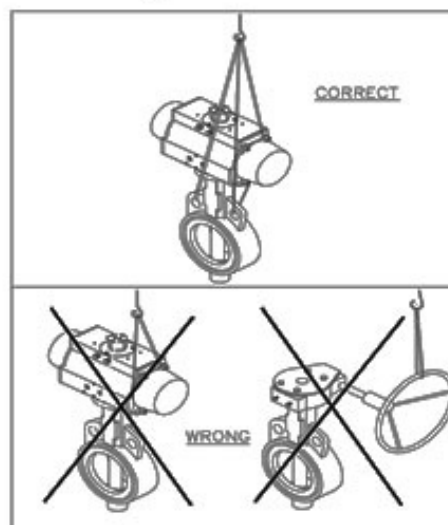

Fig 1.2 Lifting of the Valve
4.5 Lever or hand wheel of gear operator for respective valves are packed loosely and kept in the same box, in which the valve is packed (wherever applicable). When handling the valve either by hand or by mechanical means, special care should be taken not to damage the lever or gear operator. Lift the valve only as shown in fig 1.2. Lifting the valve from any other location may damage the valve components.